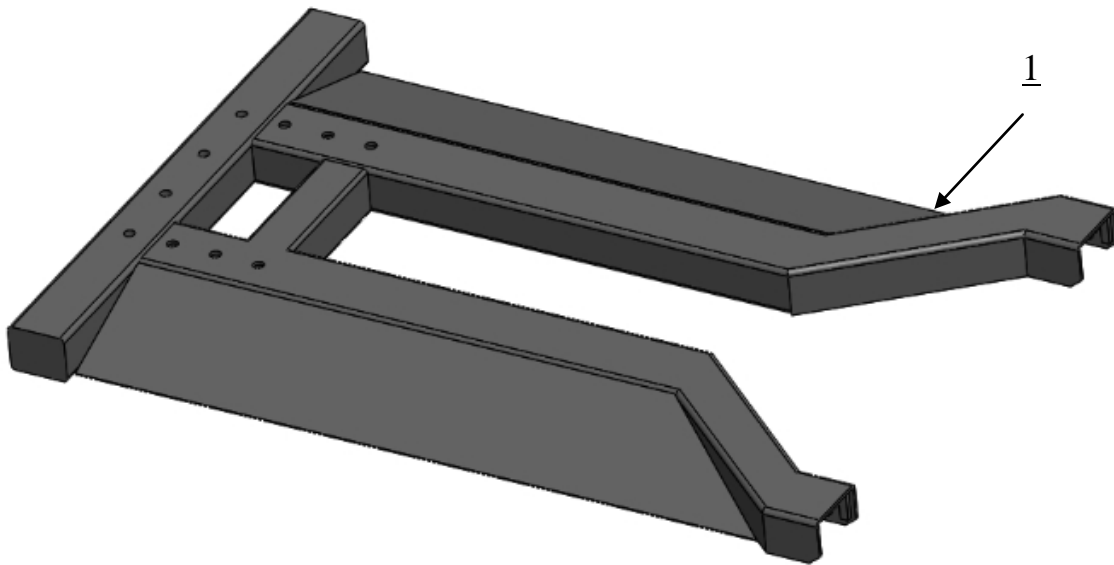

Fig.8
C. Lay the base flat to the ground, confirm installation place according to the ground state, the main purpose is to save space. (See Fig.8)